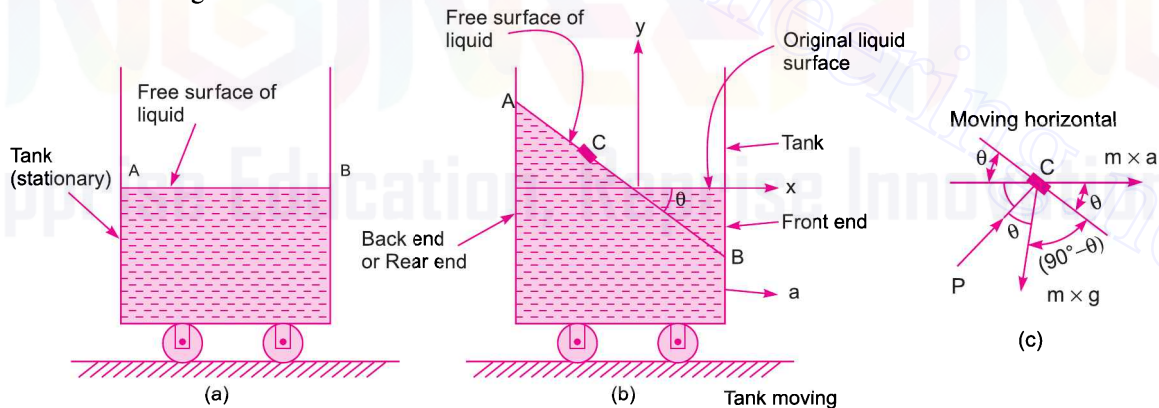

Fig. 3.43
**3.8.1 Liquid Containers Subject to Constant Horizontal Acceleration.** Fig. 3.43 (a) shows a tank containing a liquid upto a certain depth. The tank is stationary and free surface of liquid is horizontal. Let this tank is moving with a constant acceleration ' $a$ ' in the horizontal direction towards right as shown in Fig. 3.43 (b). The initial free surface of liquid which was horizontal, now takes the shape as shown in Fig. 3.43 (b). Now  $AB$  represents the new free surface of the liquid. Thus the free surface of liquid due to horizontal acceleration will become a downward sloping inclined plane, with the liquid rising at the back end, the liquid falling at the front end. The equation for the free liquid surface can be derived by considering the equilibrium of a fluid element  $C$  lying on the free surface. The forces acting on the element  $C$  are :